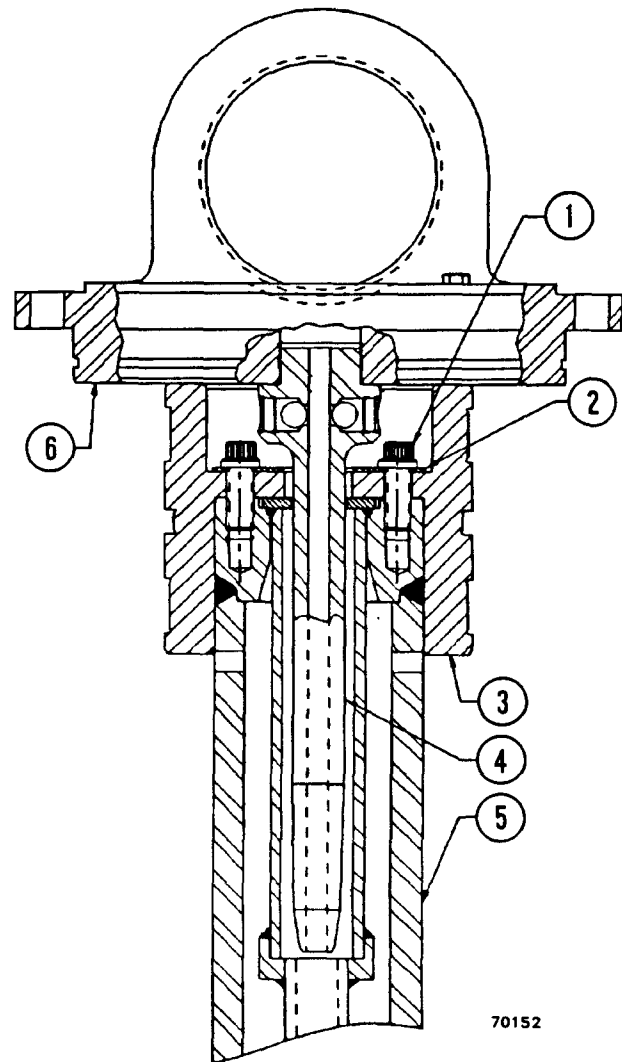

FIGURE 1. CYLINDER, 3rd STAGE
The Hoist Cylinder Rework Kits, MK3567 for the 630E and 685E and MK3569 for the 445E and 510E, provide the parts and instructions for improving the method of retaining the third stage piston bearing retainer. On existing cylinders, the retainer is held by six 5/8" UNC grade 8 hex head capscrews with hardened flat washers. The new method uses twelve 5/8" UNRC grade 9, twelve point capscrews (1, Figure 1) and a single, hardened washer plate (2). This provides a significant increase in the clamping force exerted on the piston bearing retainer (3).